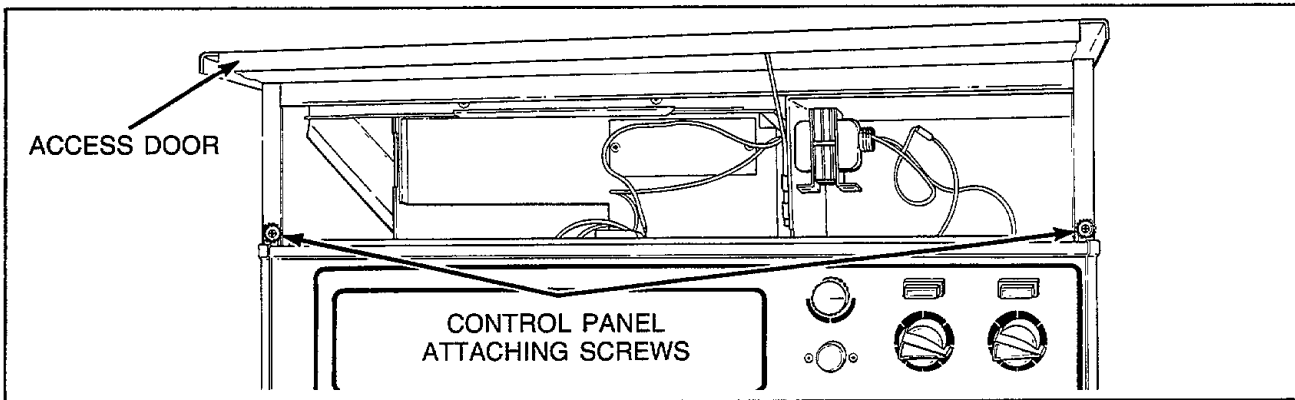

Figure 1
- b. Remove two Phillips head screws holding control panel to cabinet, *Figure 1*.